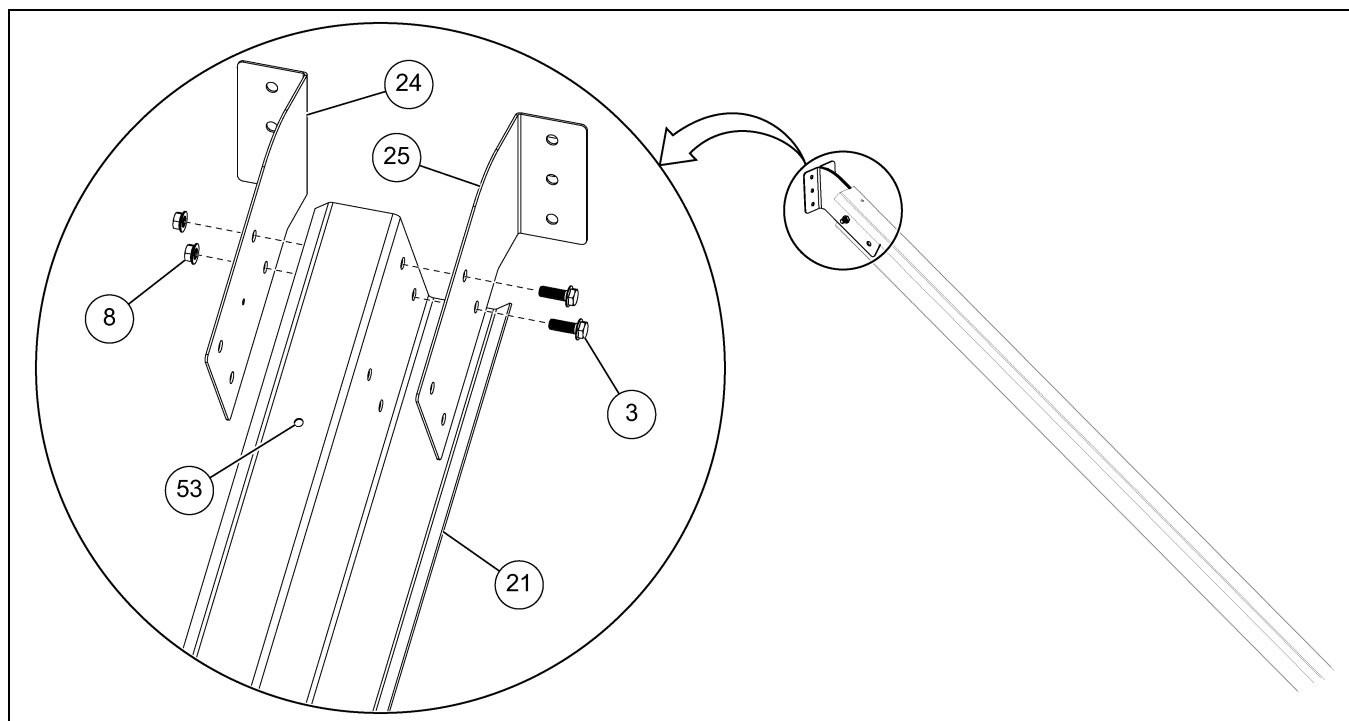

Figure 4H Installing the Center Collar Rafter Clips to the Rafter
2. Install the left center collar rafter clip (24) and right center collar rafter clip (25) to each side of the roof rafter (21) using four 7/16" x 1-1/4" flange bolts (3) and 7/16" flange nuts (8). (See Figure 4H.)